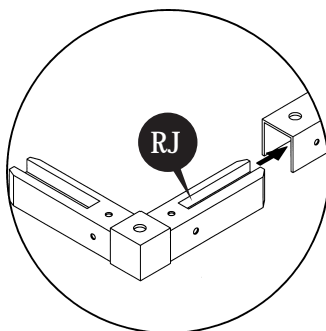

fig.4
10a. Insert 90 degree joint (RJ) into the roof structure (RS3LA). Use a hammer to push in. Use (S1) screws to fix. Repeat on other end of (RS3SA). See fig.4 & 5.